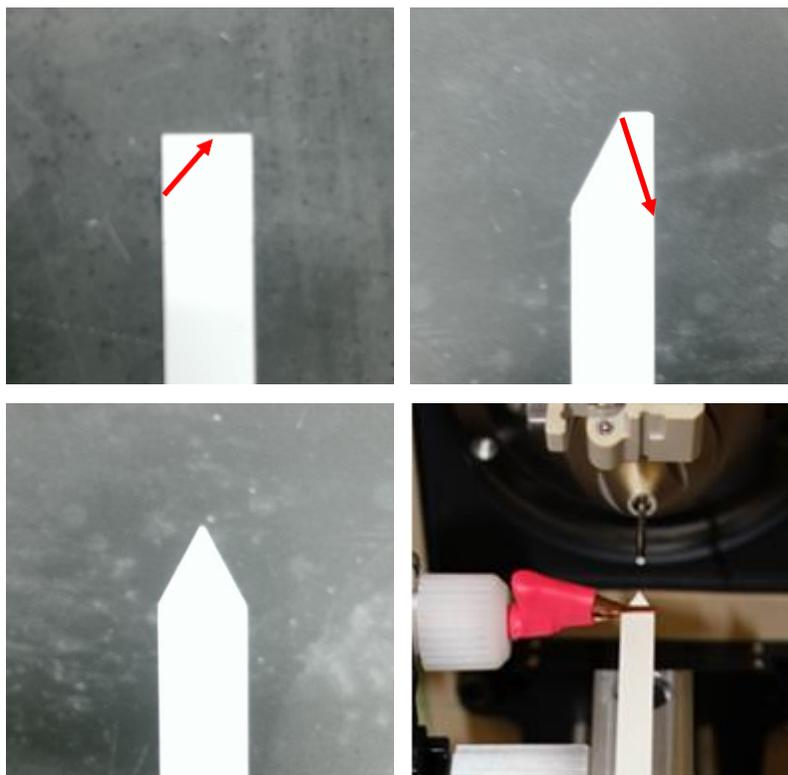
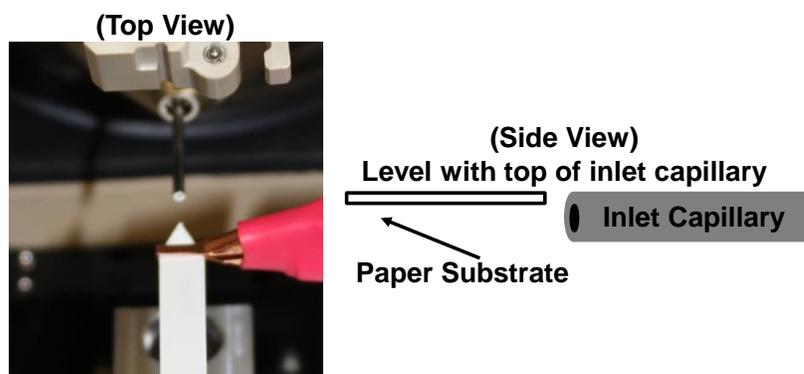
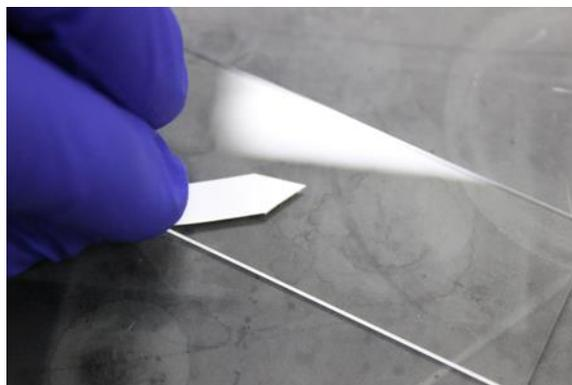

Figure 2.9 – Cutting procedure for MQuant™ Blank Strip
Figure 2.11 – Correct positioning of the paper substrate
Figure 2.12 – Swabbing of glass slide
When cutting an MQuant™ Blank Strip for PSI, make two scissor cuts as represented by the red arrows in Figure 2.9. After making the two cuts, a variable amount of exposed plastic backing should remain for stabilization of the paper, as seen in Figure 2.9 and 2.10
4. Attach the paper substrate to the high voltage clip (Figure 2.9). Confirm that the positioning of the paper in regards to the capillary is optimized (slightly above capillary and ~ 2 mm away from the entrance of the capillary) (Figure 2.11).
3. Proceed to swab the surface of interest with the paper portion of the strip in a circular motion (Figure 2.12). Allow the swab to dry, and attach the swab to the voltage source (Figure 2.9).
4. Before applying spray solvent to the paper substrate, confirm that the positioning of the paper in regards to the capillary is optimized (slightly above capillary and ~2 mm away from the entrance of the capillary) (Figure 2.11)